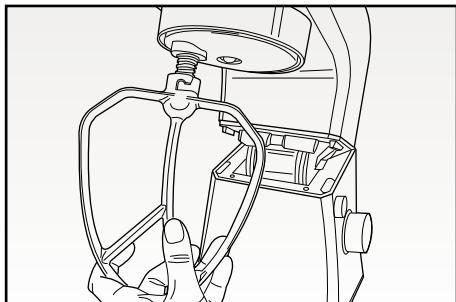
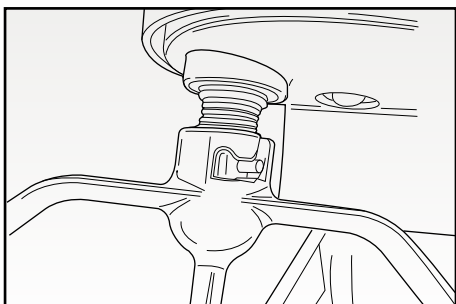

Fig. 5
Fig. 6
- According to the type of ingredient to be processed, insert the beater onto the motor shaft on the appliance body (G), Fig. 5, turning it counter-clockwise to fasten it so that the pivot located on the motor shaft fits perfectly into the appropriate seat located on the beater fitting (Fig. 6).